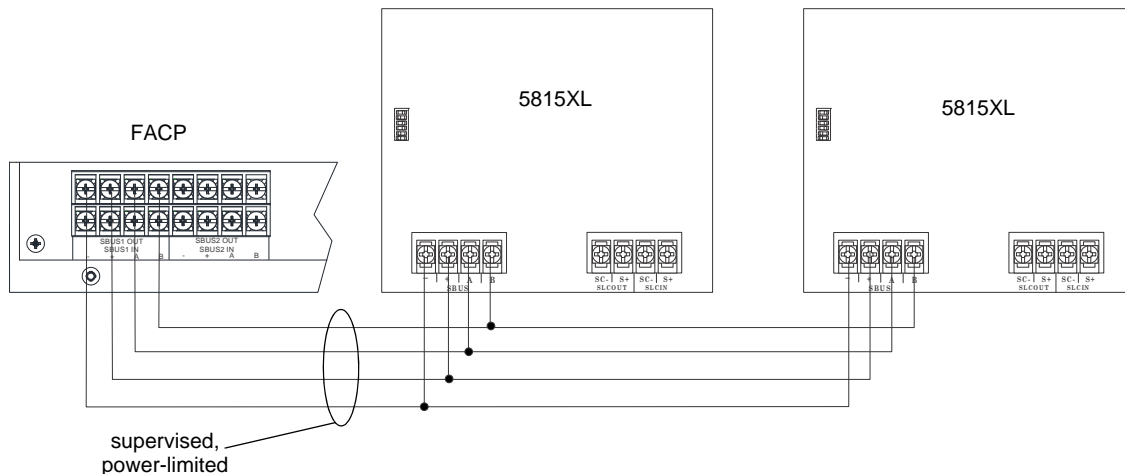

Figure 4.29 5815XL Connection to Main Panel Assembly
- Connect the 5815XL to the control panel. (See Figure 4.29.)
Connect the 5815XL to the control panel as shown in Figure 4.29. After the 5815XL is connected to the panel, it must be added to the system. This programming steps are described in Section 8.2.2.